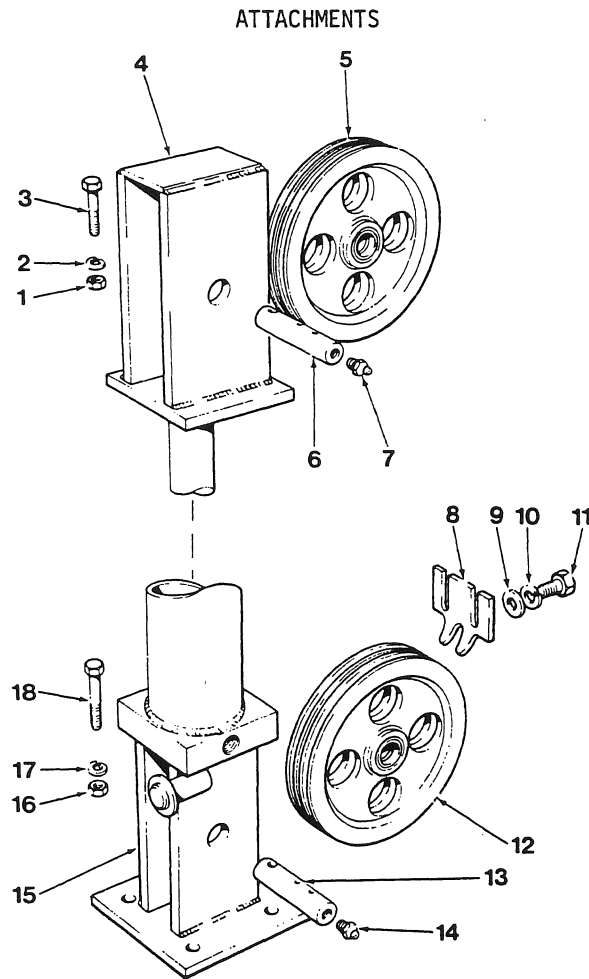

Figure 17
- e. Remove the hexagon head bolts (3 and 18, Fig. 17), nuts (1 and 16, Fig. 17) and lockwashers (2 and 17, Fig. 17) retaining the sheave pins (6 and 13, Fig. 17). Remove the sheave pins and sheaves (5 and 12, Fig. 17). Remove the two hexagon head capscrews (11, Fig. 17), lockwashers (10, Fig. 17) and flatwashers (9, Fig. 17), and remove the ice scraper (8, Fig. 17).
KEY TO FIG. 17
- g. Install the sheaves (5 and 12, Fig. 17) into the sheave housings, and retain with the sheave pins (6 and 13, Fig. 17). Retain the pins with the
hexagon head bolts (3 and 18, Fig. 17), nuts (1 and 16, Fig. 17) and lockwashers (2 and 17, Fig. 17). Install the ice scraper (8, Fig. 17), and retain with the two hexagon head cap-screws (11, Fig. 17), lockwashers (10, Fig. 17) and flatwashers (9, Fig. 17).